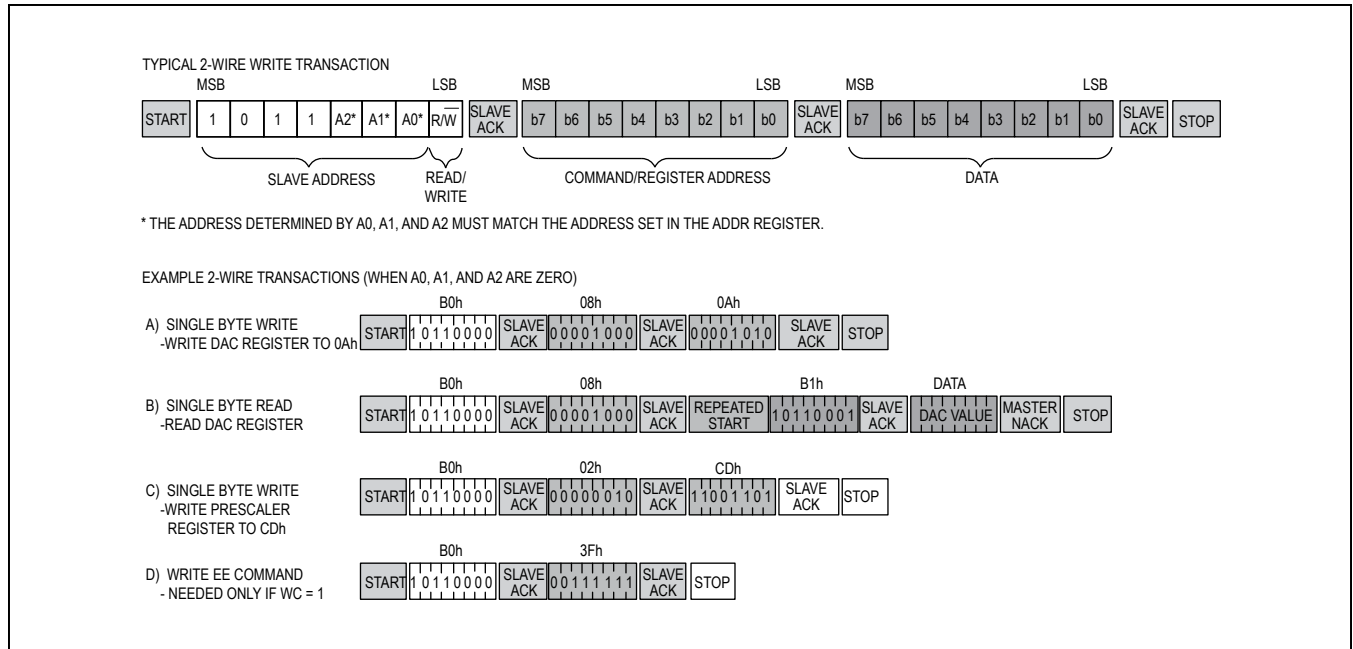

Figure 5. 2-Wire Communication Examples
**Reading a Single Byte from a Slave:** A dummy write cycle is used to read a particular register. To do this the master generates a start condition, writes the slave address byte (with  $R/\bar{W} = 0$ ), writes the memory address of the desired register to read, generates a repeated start condition, writes the slave address byte (with  $R/\bar{W} = 1$ ), reads the register and follows with a NACK (since only one byte is read), and generates a stop condition. See Figure 5 for examples of reading DS1094L registers.